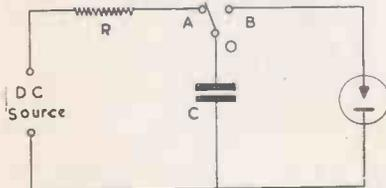

Fig. 1—Basic principles of operation.
Fig. 1. H.F. BIAS is necessary to prevent the distortion which would be caused by non-linear transfer characteristics—i.e., the magnetism induced in the tape is not a true image of the audio signal causing the magnetic field in the recording head. Diagram "a" shows a typical linear characteristic (e.g., the  $I/V$  curve of a valve) and diagram "b" shows the non-linear characteristic of a typical magnetic recording system, with the resulting distortion of output signal. By mixing the input signal with a high-frequency oscillation, as shown at "c," the waveform of the input signal is artificially broadened so that the audio signal actually operates on the linear portions of the magnetic transfer characteristic. Thus, the magnetism induced in the tape can be made a faithful image of the audio waveform in the recording head. H.f. bias is only required in recording and not on playback.
For example, let us consider Fig. 1. Supposing a condenser of high capacity is connected across a d.c. source, through a switch OA. It will charge very rapidly if a series resistance R and
The circuit of Fig. 1, also not practical, is the basic circuit of all electronic photo-flashing apparatus. Every speedlight, from the smallest battery operated, to the largest mains operated for studio work, can be divided into six clearly defined sections: (1) source of energy,
(2) charging device, (3) storage capacitor, (4) indicating device, (5) flash tube, (6) triggering and sync. device.